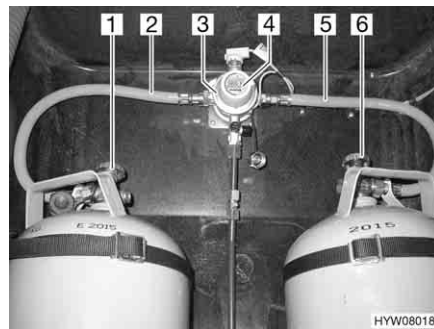
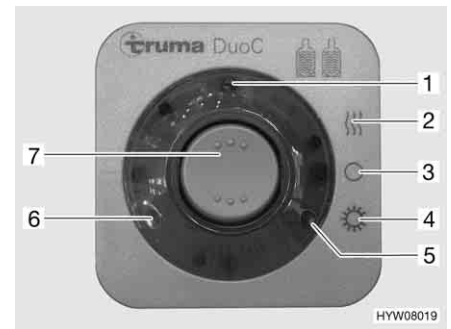

Fig. 111 DuoControl switching facility
Fig. 112 Operating unit
The DuoControl switching facility consists of a reversing valve (Fig. 111,3) and an operating unit (Fig. 112). The reversing valve is installed between the gas tubes (Fig. 111,2 and 5). The knob (Fig. 111,4) on the reversing valve is used to select which of the gas bottles is to be used as a primary bottle and which is to be used as a reserve bottle.
Only the electrical functions can be switched at the operating unit (Fig. 112). The regulator taps on the gas bottles (Fig. 111,1 and 6) must be opened manually.
The reversing valve provides a constant gas pressure, regardless of which gas bottle is being drawn upon. The two indicator lamps on the operating unit indicate the level of the primary bottle. When the green indicator lamp (Fig. 112,6) illuminates, the primary bottle is full. When the red indicator lamp (Fig. 112,5) illuminates, the primary bottle is empty. In this case, the reserve bottle is used for the gas supply.
- Open the regulator taps on the gas bottles (Fig. 111,1 and 6).
- Use the knob (Fig. 111,4) on the reversing valve (Fig. 111,3) to select the gas bottle which is to be the primary source of gas (primary bottle). Always turn the knob as far as it will go.
- Switch on the DuoControl switching facility at the operating unit (Fig. 112). To do so, set the rocker switch (Fig. 112,7) to winter operation "On and heating" (Fig. 112,2) or to summer operation "On" (Fig. 112,4). The reversing valve is now deaerated. The yellow indicator lamp (Fig. 112,1) illuminates if the winter operation has been selected and the regulator defroster is activated.
- Set the rocker switch (Fig. 112,7) to "O" (Fig. 112,3). The yellow indicator lamp (Fig. 112,1) goes out.
- Close the regulator taps on the gas bottles (Fig. 111,1 and 6).
The indicator lamps on the operating unit (Fig. 112,5 and 6) indicate in the vehicle interior whether the primary bottle is ready for operation.
If the green indicator lamp (Fig. 112,6) stops illuminating during operation and the red indicator lamp (Fig. 112,5) illuminates, the gas bottle selected as primary bottle is empty and needs to be changed. The reserve bottle continues supplying the gas appliances with gas.